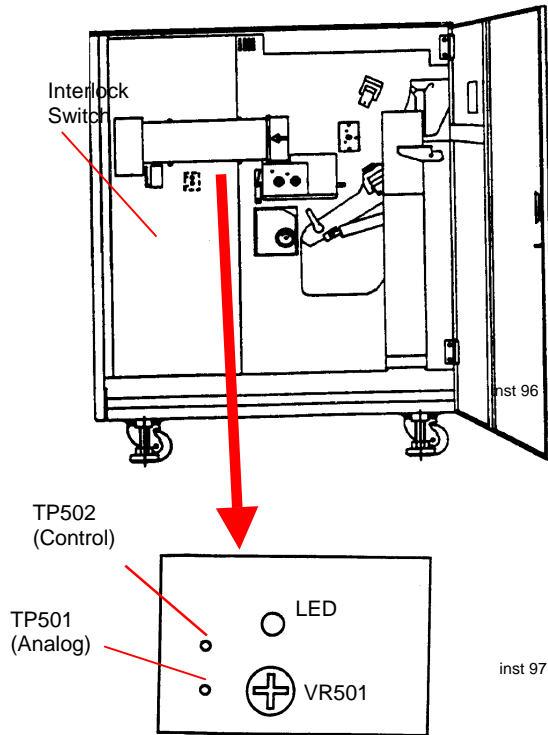

Figure 13. Setting Toner Concentration
3. (Figure 13): Open the Right Side Door and cheat the Interlock Switch.